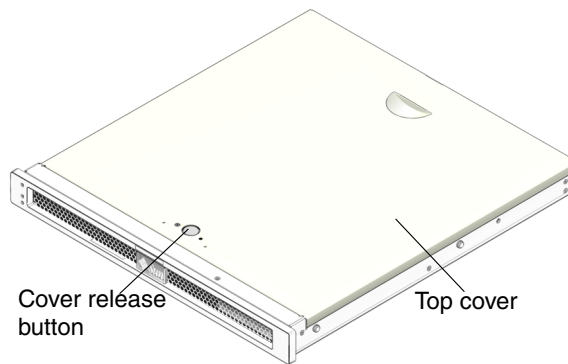

FIGURE 3-3 Location of Top Cover, Release Button
1. Press the cover release button (FIGURE 3-3).